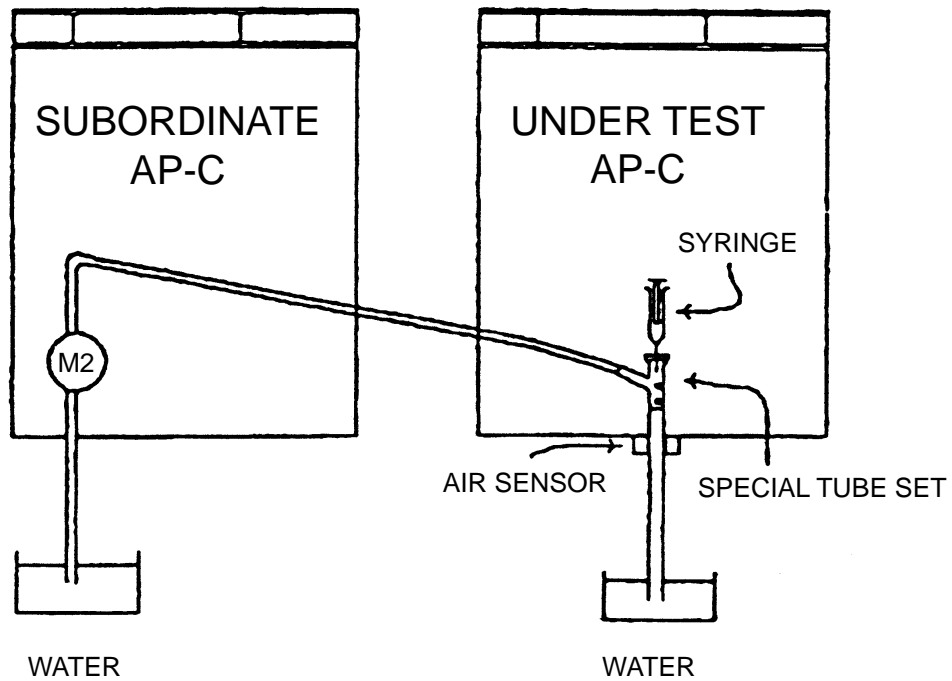

Figure A.2 Air Bubble Test Tube Routing
| Figure A.2 Air Bubble Test Tube Routing..... | A-5 | 6/99 |
1. Install the special tube set into M2 of the subordinate AP-C according to Figure A.2.
4. Install the special tube set into the air sensor housing of the AP-C under test according to Figure A.2.